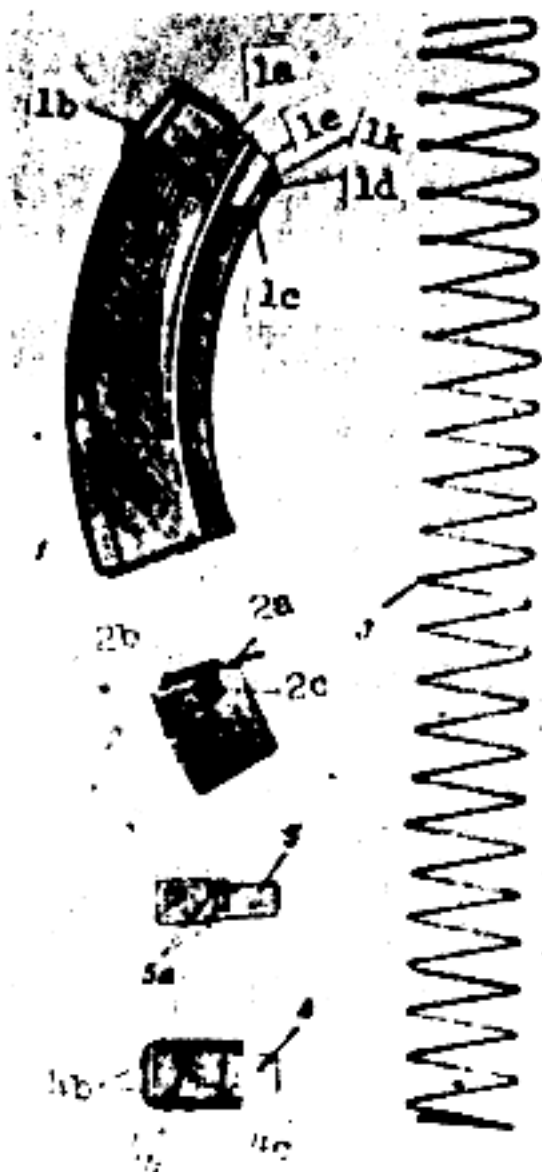

Figure 55. Magazine
The magazine (fig. 55) contains and feeds the rounds. It consists of a body (1), follower (2), follower spring (3), base plate (4) and base plate retainer (5).